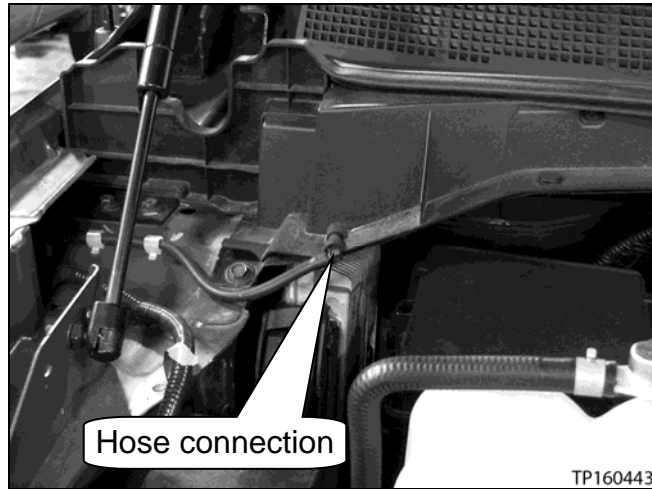

Figure 114
- e. Connect the washer nozzle supply hose (see Figure 114).